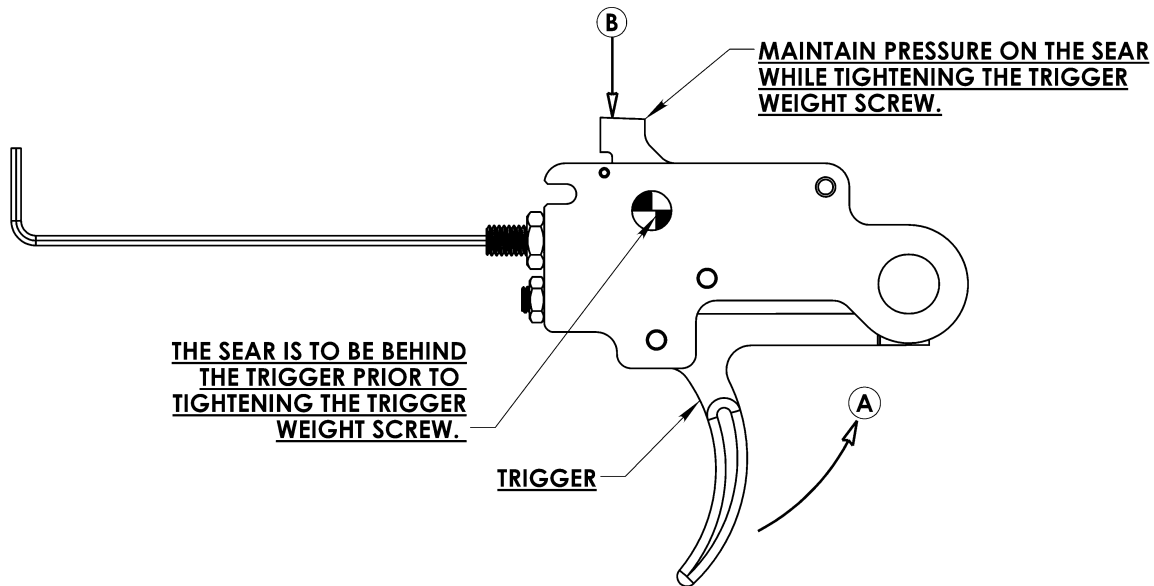

Figure 27. Returning the trigger weight to the factory setting.
2. With the sear engagement properly set and the trigger and sear at rest (Figure 27), turn the trigger weight screw using a 1/16" allen wrench until the trigger weight screw just touches the front of the trigger. Continue to turn ¼ turn and while holding the trigger adjustment screw in place and tighten the brass nut with a 5/16" wrench.